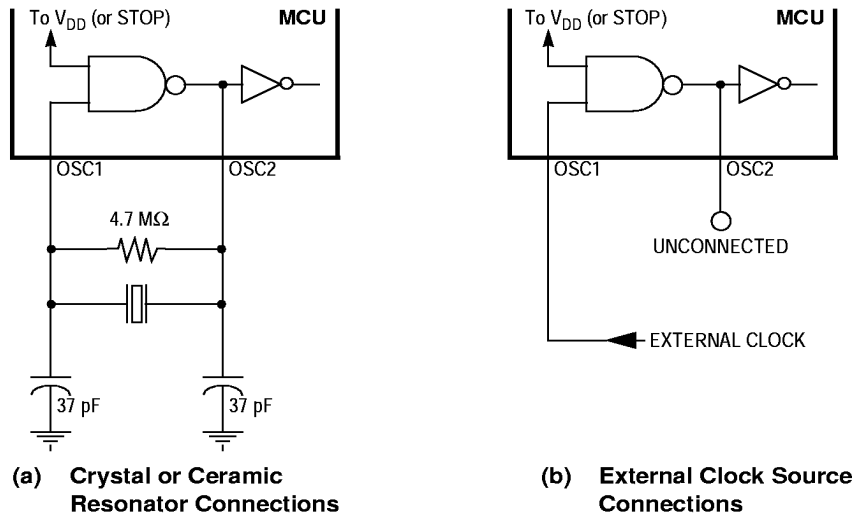

Figure 1-2. Oscillator Connections
1. A crystal as shown in **Figure 1-2(a)**
2. A ceramic resonator as shown in **Figure 1-2(a)**
3. An external clock signal as shown in **Figure 1-2(b)**
The circuit in **Figure 1-2(a)** shows a typical oscillator circuit for an AT-cut, parallel resonant crystal. Follow the crystal manufacturer’s recommendations, as the crystal parameters determine the external component values required to provide maximum stability and reliable startup. The load capacitance values used in the oscillator circuit design should include all stray capacitances. Mount the crystal and components as close as possible to the pins for startup stabilization and to minimize output distortion.
In cost-sensitive applications, use a ceramic resonator in place of a crystal. Use the circuit in **Figure 1-2(a)** for a ceramic resonator and follow the resonator manufacturer’s recommendations, as the resonator parameters determine the external component values required for maximum stability and reliable starting. The load capacitance values used in the oscillator circuit design should include all stray capacitances. Mount the resonator and components as close as possible to the pins for startup stabilization and to minimize output distortion.
An external clock from another CMOS-compatible device can be connected to the OSC1 input, with the OSC2 input not connected, as shown in **Figure 1-2(b)**.